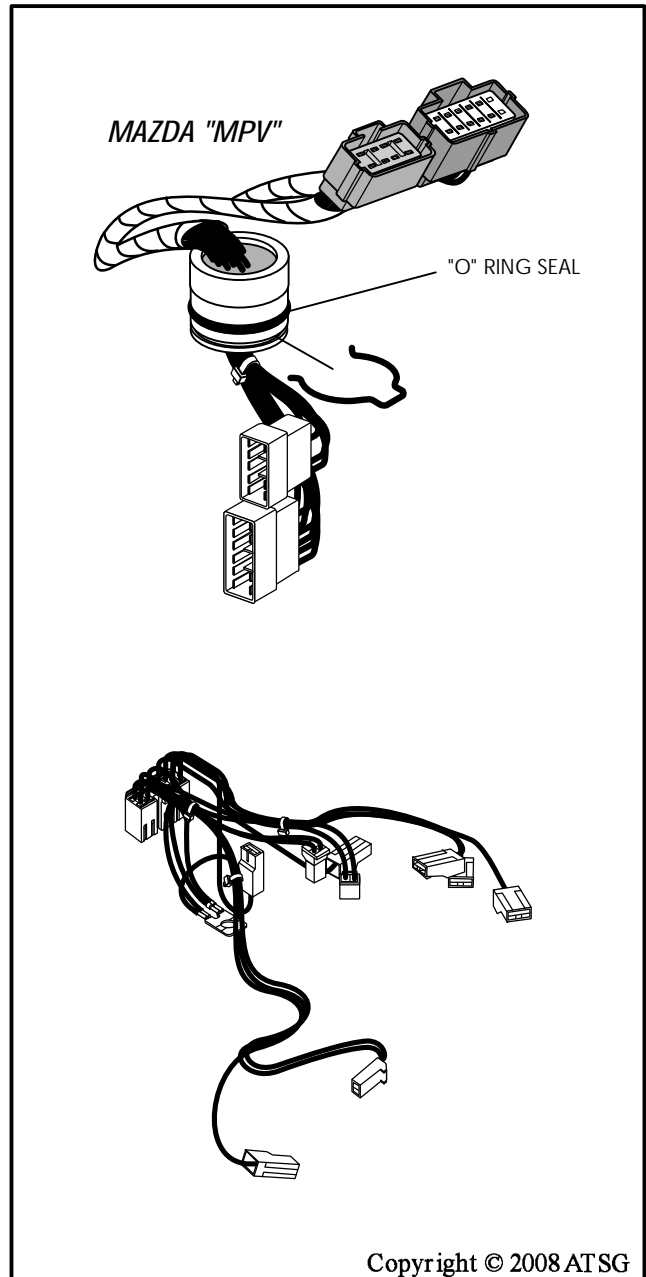

Figure 90
1. Inspect all internal wiring harness components for any wear and/or damage (See Figure 90).
2. Install new "O" ring seal on the "pass-thru" connector, as shown in Figure 90, and lube with a small amount of Trans-Jel®.